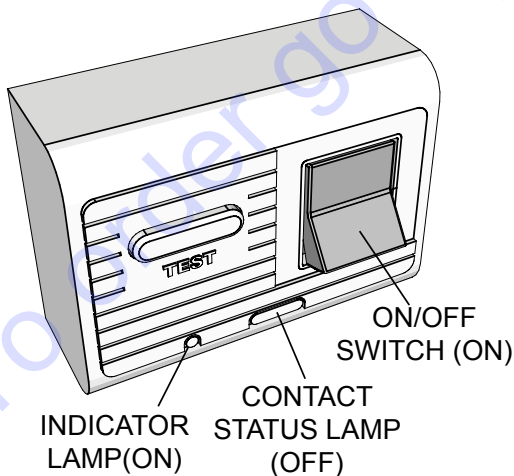

Figure 22. 230 VAC GFCI Breaker (ON)
This GFCI receptacle (Figure 21) can provide 230 VAC @ 15 amps. It is protected by a 15 amp breaker (Figure 22).
1. When the circuit breaker is ON, the contact status lamp is OFF and the indicator lamp is ON (Figure 22).